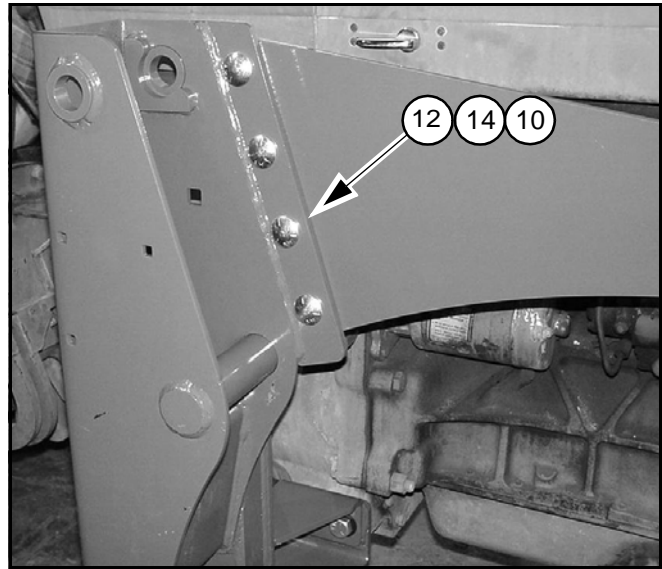

Figure 5 Side Rail Installed to Right Rear Mount
1. Attach side rail to inside of right rear mount, using four carriage bolts (12), flat washers (14), and hex nuts (10) as shown in Figure 5.